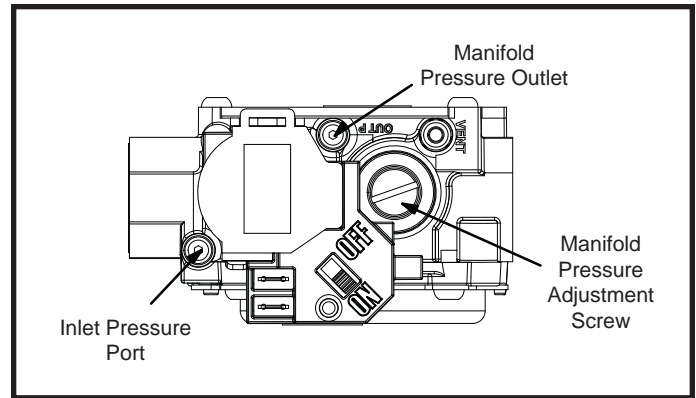

Figure 6. Gas Valve
3. Slide the gas valve switch to the “ON” position (see **Figure 6**).
2. Slide the gas valve switch to the “OFF” position (see **Figure 6**).
To adjust the regulator, turn the adjusting screw on the regulator clockwise to increase pressure and input or counterclockwise to decrease pressure and input. See **Figure 6** to assist in locating the regulator on the gas valve.
1. Slide the gas valve switch to the **"OFF"** position (see **Figure 6**).